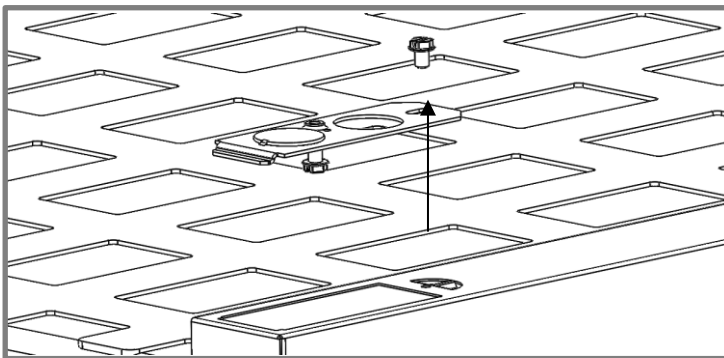
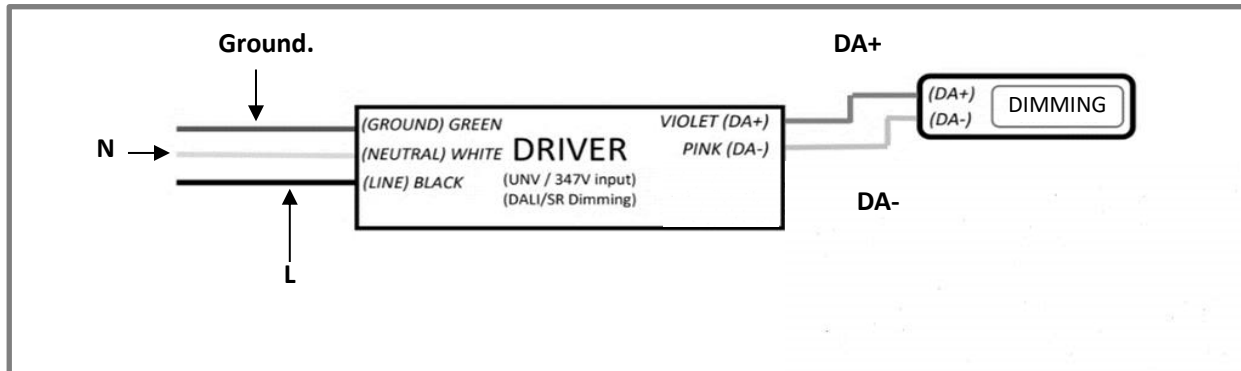

Figure 4.
Figure 5.
- a. Unscrew and remove the access plate cover from the fixture, as shown in figure 4, and proceed with connections as shown in figure 5.